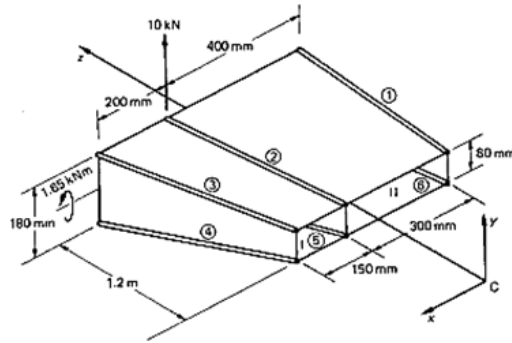

Figure 7
10. (a) A two-cell beam has singly symmetrical cross-sections 1.2m apart and tapers symmetrically in the y direction about a longitudinal axis shown in Figure 7. The beam supports loads which produce a shear force $S_y = 10\text{ kN}$ and a bending moment $M_x = 1.65\text{ kNm}$ at the larger cross-section; the shear load is applied in the plane of the internal spar web. If booms 1 and 6 lie in a plane which is parallel to the yz plane calculate the forces in the booms and the shear flow distribution in the walls at the larger cross-section. The booms are assumed to resist all the direct stresses while the